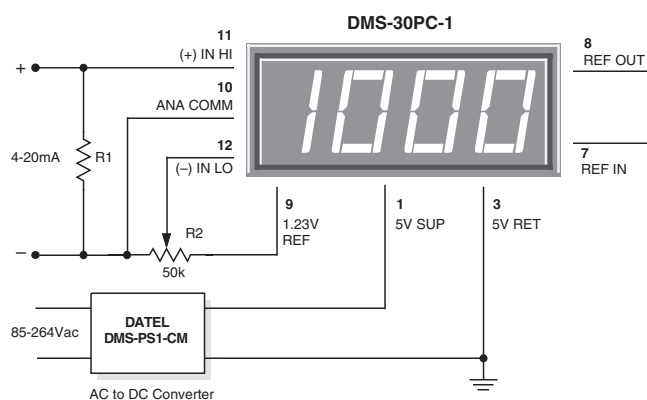

Figure 7. 4-to-20mA Current Loop Operation
- 5. Process Control (4-to-20mA) Measurements:** In many common process-control applications, a 4-to-20mA current loop is used to transmit information. Because DMS-30PC meters have such high input impedance, a simple shunt resistor across the meter's input can be used to convert the loop current to a voltage. See Figure 7. The value of the shunt resistor is a function of the scaling requirements of the particular application and can be calculated using the following equation:
To calibrate the circuit of Figure 7, perform the following: